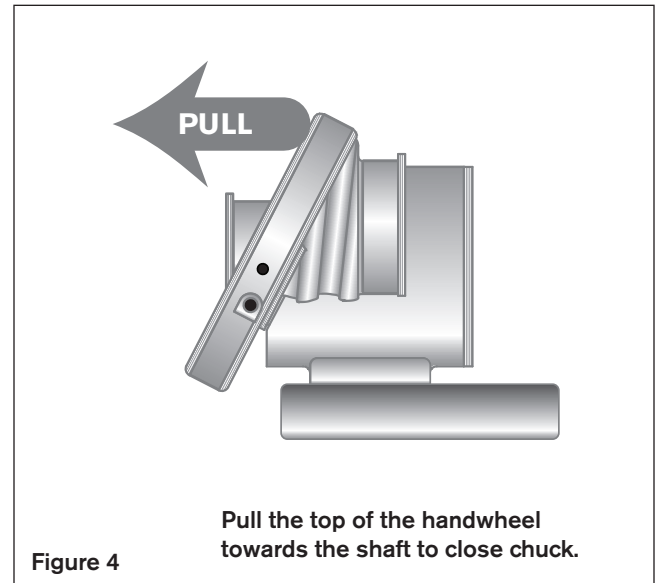

Figure 4
5. Close Chuck by pulling the top of the handwheel towards the shaft. The handwheel will stop in a vertical position, securing the shaft (See Figure 4).